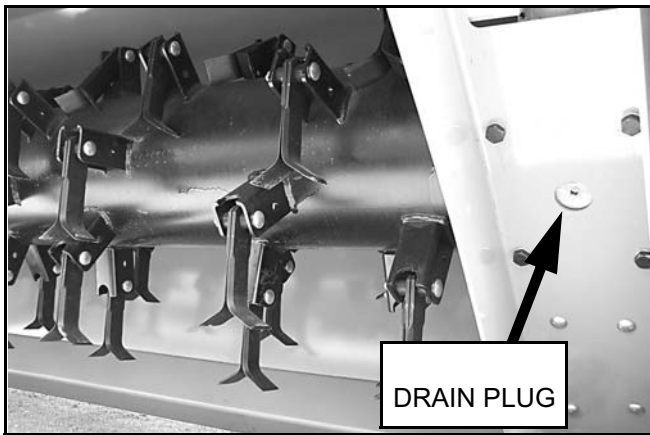

Figure 31. Drain Plug (Underside of Unit)
5. Place a pan under drain plug. Remove drain plug and dipstick plug (see Figure 31).